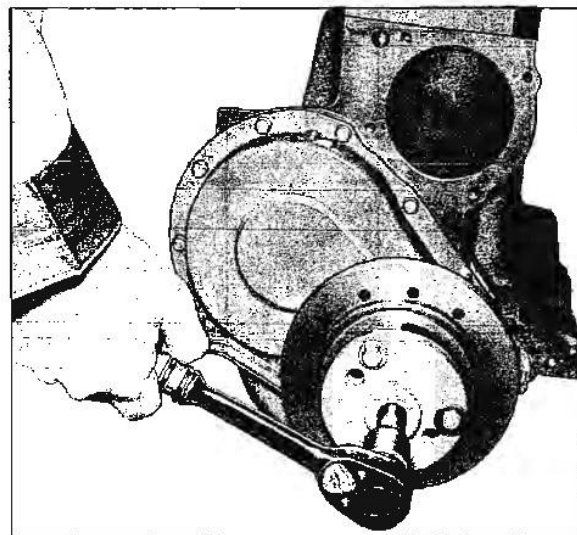

Fig. 6-35 Removing Harmonic Balancer
4. Install tool J-6978 to balancer and turn puller screw to remove balancer (Fig. 6-35). Then remove tool from balancer.